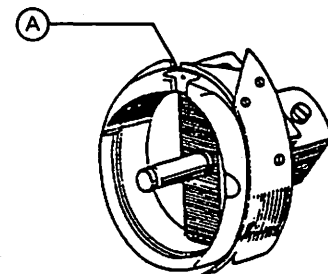

Fig. 22
- (1) Use the undertrimmer hook which has the bobbin thread guide slit (A) as shown in Fig. 22.